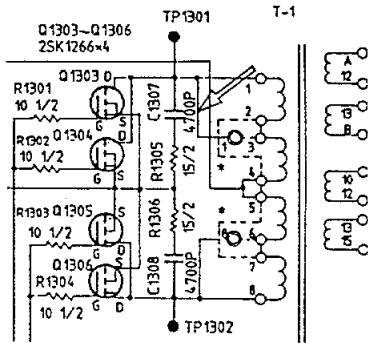
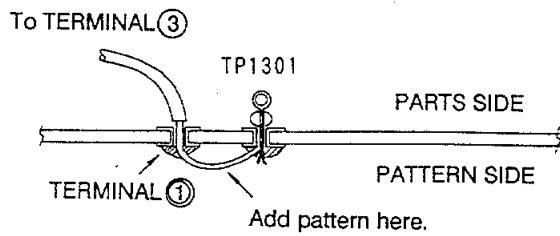

Fig. 2
Fig. 3
**NOTE:** For **POWER SUPPLY** Board version no. **PTU-8764-11**, the pattern between **TP1301** and ① (see arrow in Fig. 2) is missing. If the input voltage is changed to **12 VDC**, please add this pattern as shown in Fig. 3. This modification is not required for **POWER SUPPLY** board version no. **22**, which will be produced from **3/91**.